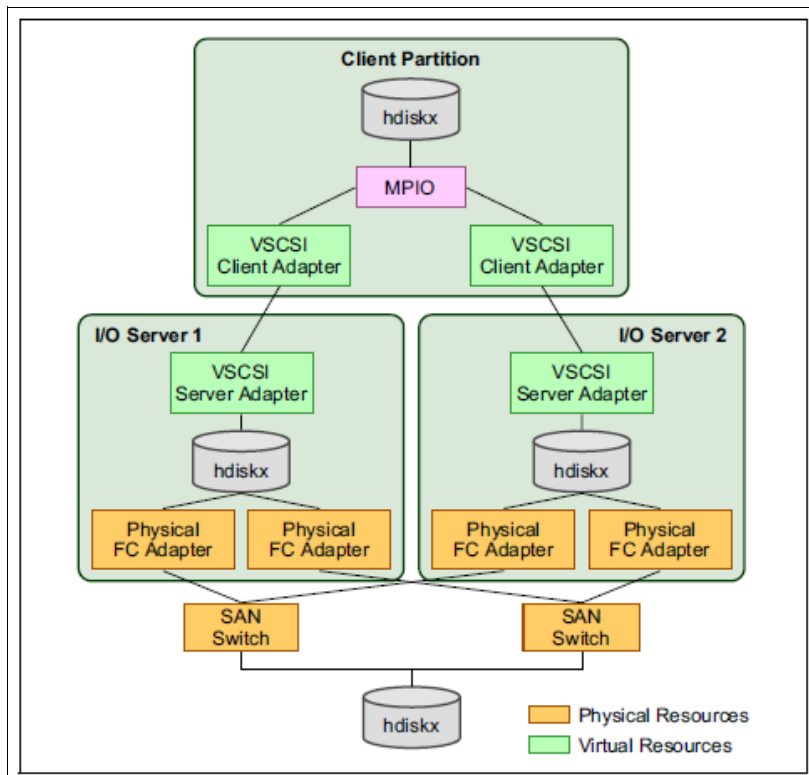

Figure 2-2 Redundancy of vSCSI using dual virtual I/O servers
Figure 2-2 shows one possible configuration in a PowerVM environment that shows the redundancy of vSCSI by using multipath I/O (MPIO) at client partitions. The diagram shows a dual-VIOS environment where the client partition has two vSCSI client adapters and each of them is mapped to two different vSCSI server adapters on different VIOSs. Each VIOS maps the same physical volume (PV) to the vSCSI server adapter on them.
The client partition sees the same PV (hdisk in Figure 2-2), which is mapped from two VIOSs by using vSCSI. To achieve this mapping, the same storage must be zoned to the VIOSs from the storage subsystem. This configuration also has redundancy at the VIOS physical FC adapter.